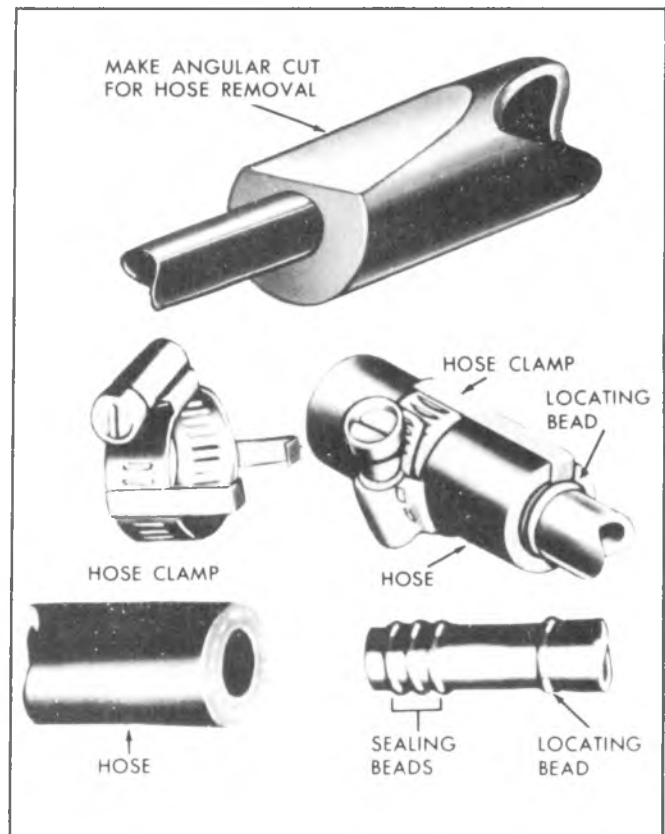

Fig. 1B-17-Hose Clamp Connections
1. Carefully, with a sharp knife, make an angle cut in the hose as shown in Figure 1B-17. This should loosen the hose so that it may be worked off the fittings.